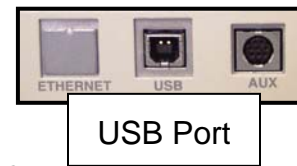

Figure A4
Note: Verify that printer's ON/OFF switch is switched to OFF before the power cord is plugged into an electrical outlet. See Figure A2. Plug the printer in and turn the power switch to "ON." Once powered up, the Front Panel LED should be solid green. See Figure A4.
A standard USB 1.1 connector is provided on the rear panel of the printer. See Figure A4. The USB port operates as a virtual serial communications port and requires the installation of the Desk-Top™ supplied USB driver for proper operation. See Chapter 2 for driver installation instructions. The USB cable must be connected to a host PC that is already powered on before the printer is turned on.
6. Locate the USB port of your computer and plug in the USB cable and connect to printer. See Figure A4. Windows should detect the driver as Prolific USB-to-Serial Comm Port. Before Windows installs this, it may prompt you that this device driver has not yet passed Windows XP Logo compatibility. Click Continue Anyway. Windows will then start to install the driver for the USB-to-Serial Comm Port.